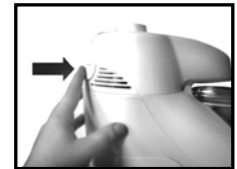

Fig. 9
- To open the food processor, ensure that the speed control dial is in the "Off" position and press the swivel head release button. (Fig. 9)